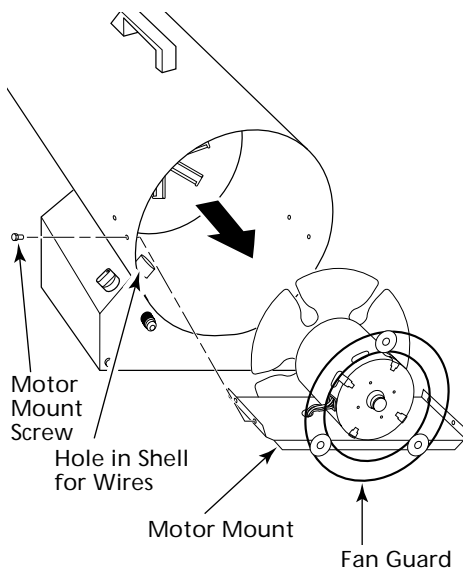

Figure 7- Removing Motor, Motor Mount, and Fan Guard from Heater
5. Remove screws holding motor mount to shell. Use nut-driver (See Figure 7, page 8).